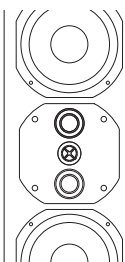

Figure 6C
- C. Carefully lift up the metal mounting plate to clear the cabinet opening. Rotate it 90 degrees from the current orientation and then reinsert it back into the cabinet. Refer to figure 6C.